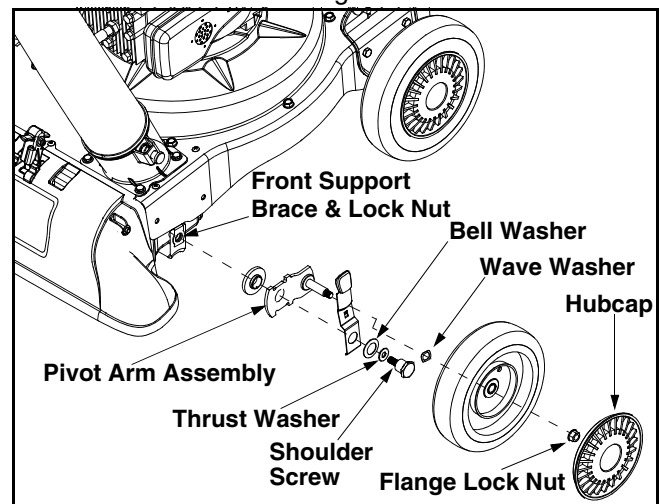

Figure 13
- Remove the front hubcaps, flange lock nuts, front wheels, and wave washers that attach to the pivot arm assemblies. See Figure 13.